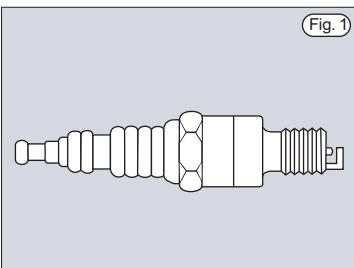

Fig. 1
- Adjust the throttle control play by means of adjuster 1 (fig. 1).
If the headlight beam does not comply with the above indications, adjust it by means of the screw (Fig.1) fixed to the headlight body .